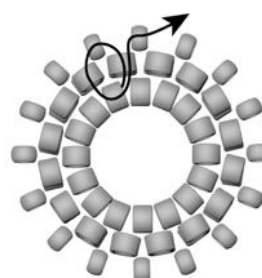

figure 7
7. For the last stitch in this round there will be NO bead added in the stitch. At the end of the round, step up as shown in **figure 7**, so you are coming out of the 15°s along the outer edge of the structure.